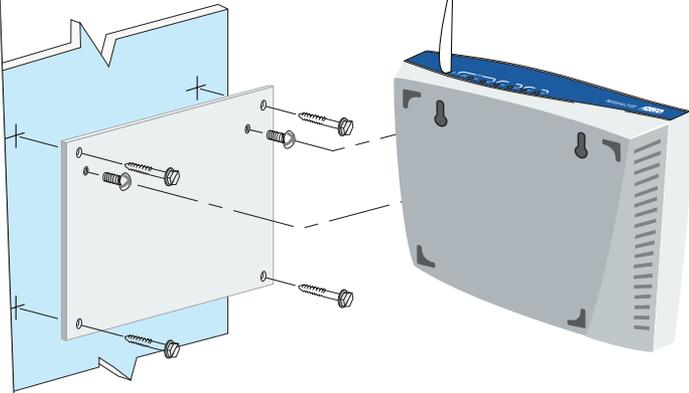

Figure 7. Wallmounting the T1 CSU ACE
3.	Install two #8 (1 1/2" or greater in length) wood screws into the mounted board following these guidelines and referring to Figure 7: <ul style="list-style-type: none"> • Screws should be spaced horizontally, approximately 5" apart. Find exact positioning by using the location of the two eyed insets on the bottom of the unit as a guide. • Screws should be horizontally level with each other. • Leave approximately 1/4" of the screws protruding from the board to allow the heads of the screws to slide into place in the unit's keyed insets.